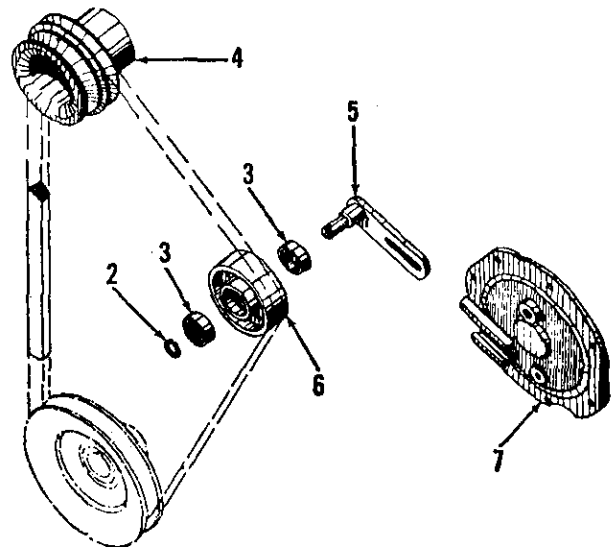

Fig. 71—Exploded view of the water pump used on Series 424, 444, 2424 and 2444 diesel tractors.
To disassemble water pump, use a suitable puller and remove pulley (6—Fig. 71) from shaft (7). Remove set